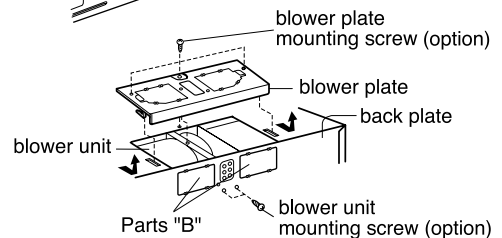

Figure 12
1. Remove blower unit mounting screw and blower plate screws. Remove the blower plate from cabinet. See Figure 12.